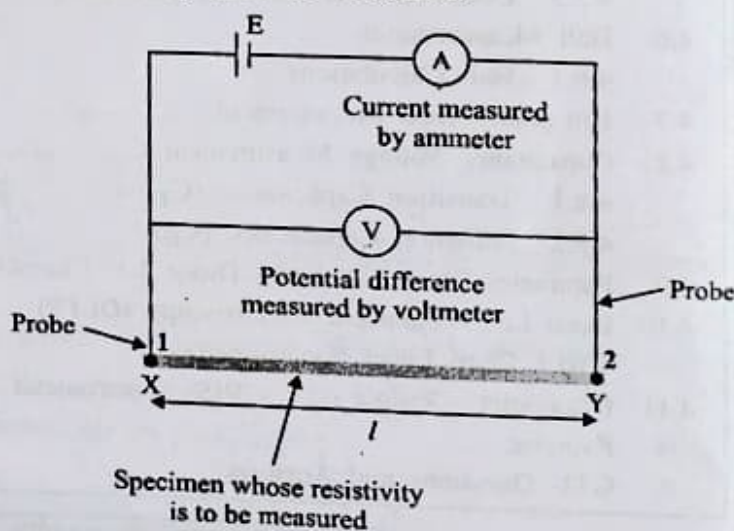

FIG. 4.1(a) : TWO PROBE METHOD
- As shown in Fig. 4.1(a) XY is the specimen whose resistivity is to be measured.